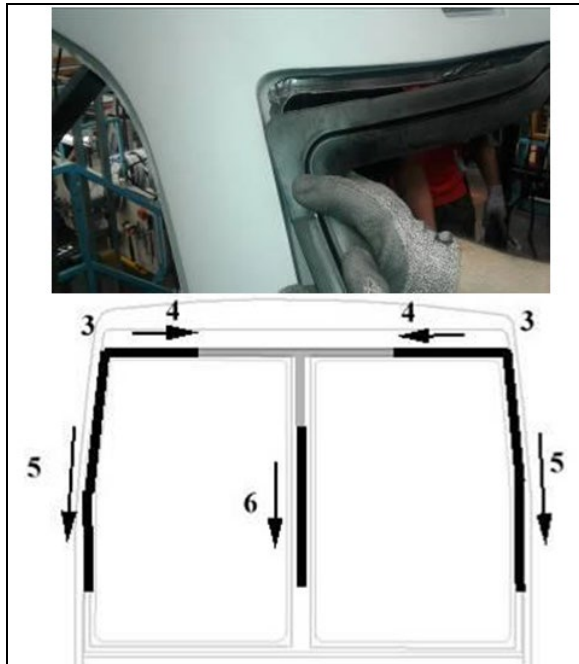

FIGURE 60
3. Bend the corners and insert at location identified #3 (Figure 60).
4. Insert the rubber extrusion at the location identified #4 (Figure 60).
5. Insert the rubber extrusion at the location identified #5 (Figure 60).
6. Insert the rubber extrusion at the location identified #6 (Figure 60). Use of soapy water is allowed for this section step.